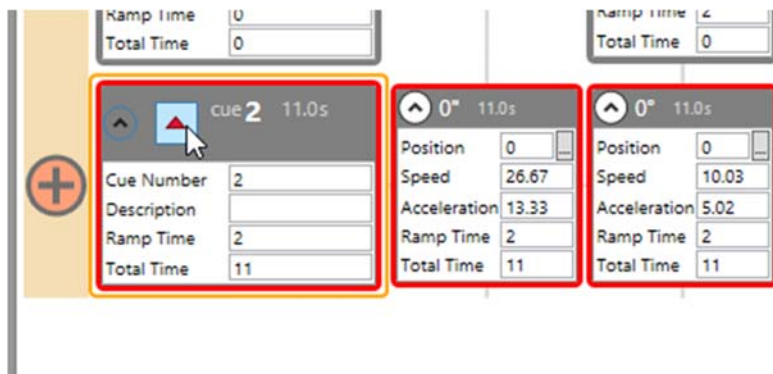

Figure 48
16. Press the **Load this cue** button in the *Cue 2* panel (Figure 48).